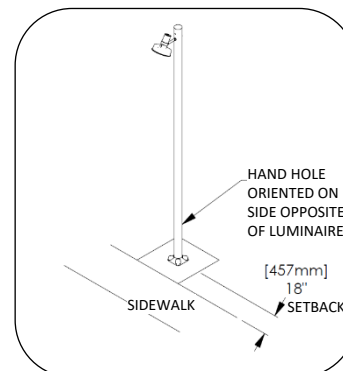

Fig. 1 – Sidewalk setback
1. Lift the light pole into position over the installed anchors as shown in Fig. 1. Ensure that the base plate is resting on all four washers.